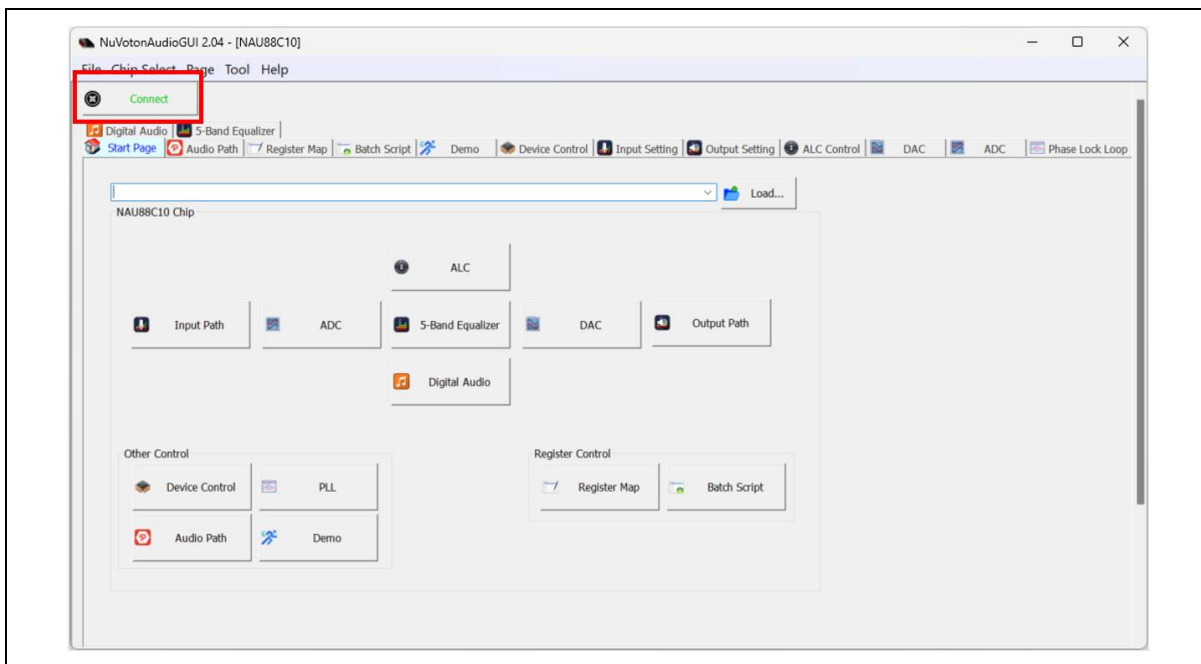

Figure 3-6 NuvotonAudioGUI Operating Step (3)
3. NuvotonAudioGUI will automatically read connection status. If the hardware and software are properly configured, a green [Connect] will appear on the upper left corner of the NuvotonAudioGUI window, as shown in Figure 3-6. Then users can issue I²C commands through NuvotonAudioGUI to control NL-NAU88C10.